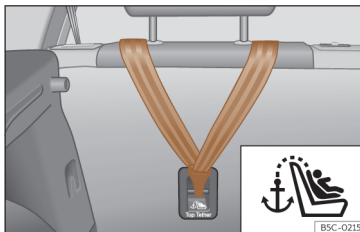
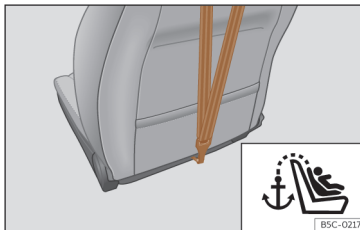

Fig. 42 Rear part of the rear seats: Top Tether belt anchor.
Fig. 43 Rear of front passenger seat backrest: Top Tether belt anchor (not available on all markets).
is located on the rear of the rear seat backrest and of the front passenger seat backrest¹⁾ (identified with the symbol ) and provides better retention >>> **Fig. 42**, >>> **Fig. 43**.
- Slide the belt and secure it properly with the anchor on the rear seat backrest >>> **Fig. 42**, >>> **Fig. 43**.